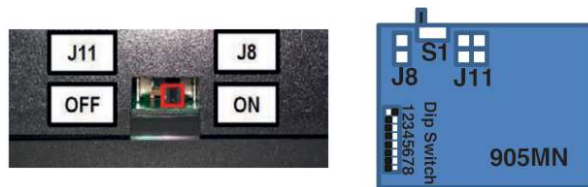

Fig.1 Setting Controller S1 Dipswitch
1. Set S1 dip switches on boiler controllers (Fig. 1)